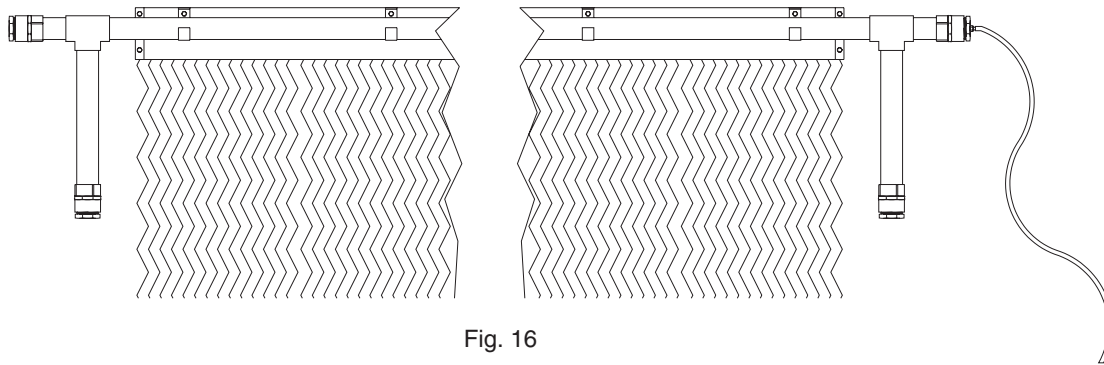

Fig. 16
5. Apply PVC cement on the pipe and one end of the Tee fitting and push the Tee all the way on the pipe (see Fig. 16).
6. Cut the 4'8" (1.42 m) length of pipe into two 2'4" (.711 m) lengths. Remove burrs and apply PVC cement to the bottom leg of the tee and one end of the PVC pipe. Insert the pipe into the tee as shown in Fig. 16.